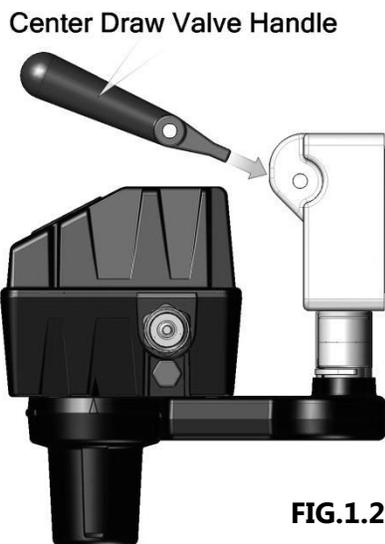

FIG.1.2
2.) With Pro-control in position **FIG.1.2**, reinstall Center Draw Valve Handle.